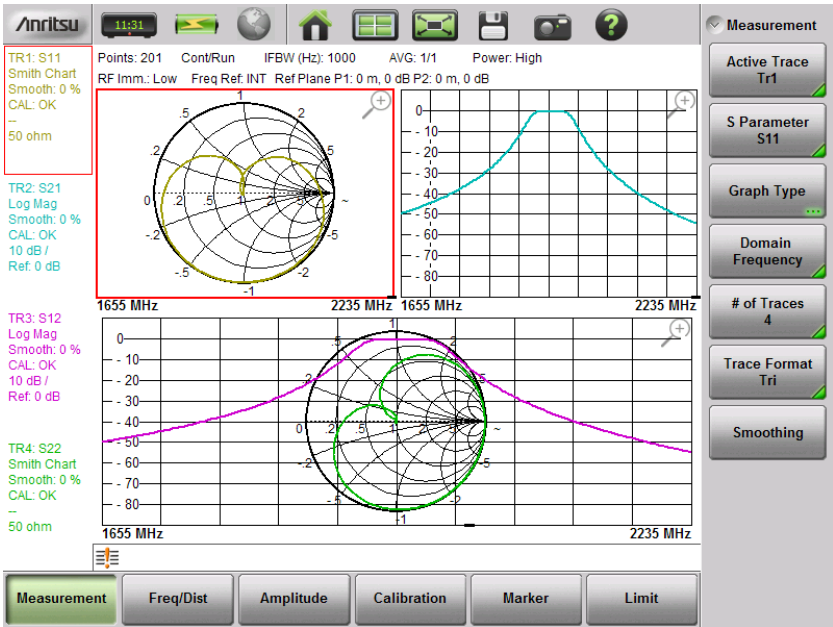

Figure 6-6. Format = Tri, Traces = 4
- Next change Trace Format to Tri. Note how the 4 traces are assigned on this display. TR3 and TR4 are now overlaid in the bottom half of the display area. Refer to Figure 6-6.